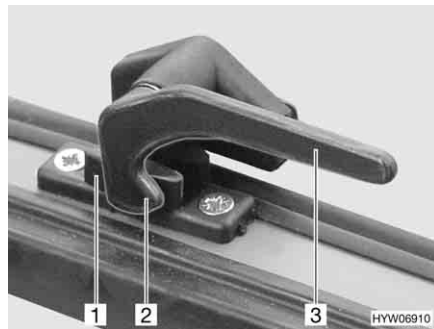

Fig. 66 Catch lever in "closed" position
- Turn the catch lever (Fig. 66,3) a quarter turn towards the centre of the window.
- Turn the catch lever (Fig. 66,3) a quarter turn towards the window frame. The locking catch (Fig. 66,2) is located on the inside of the window catch (Fig. 66,1).
- Firmly closed (Fig. 66)